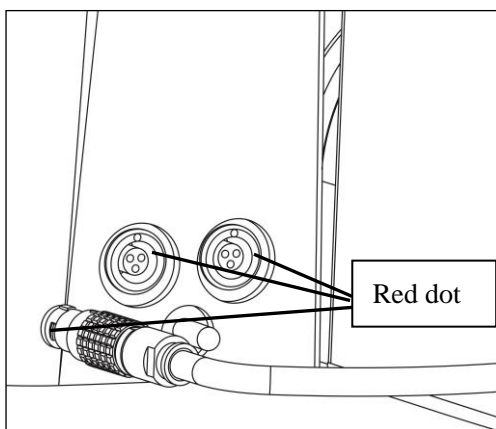

Fig 3
3.3 Light Source Socket(fig 3)
As shown in figure 3, the light socket and